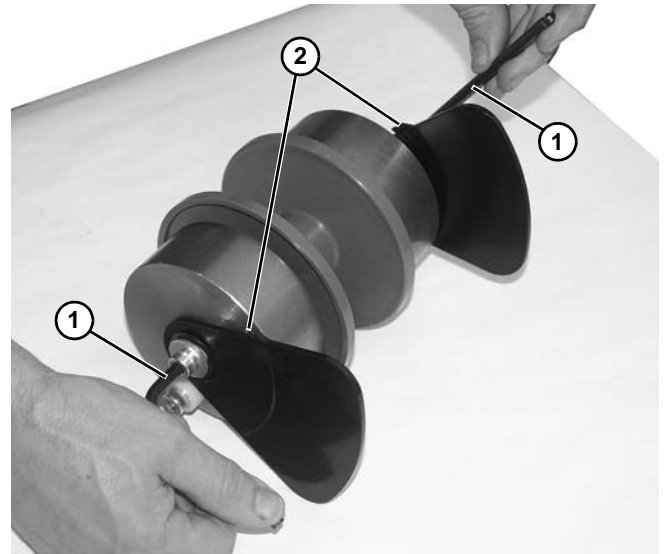

Figure 154
10. Install components reverse of removal, using two hex wrenches (Figure 154, item 1) on each side of idler assembly to tighten components.
Be certain that notches (Figure 154, item 2) on both plates are on top side, and spacers are in same orientation, as shown, before tightening components.